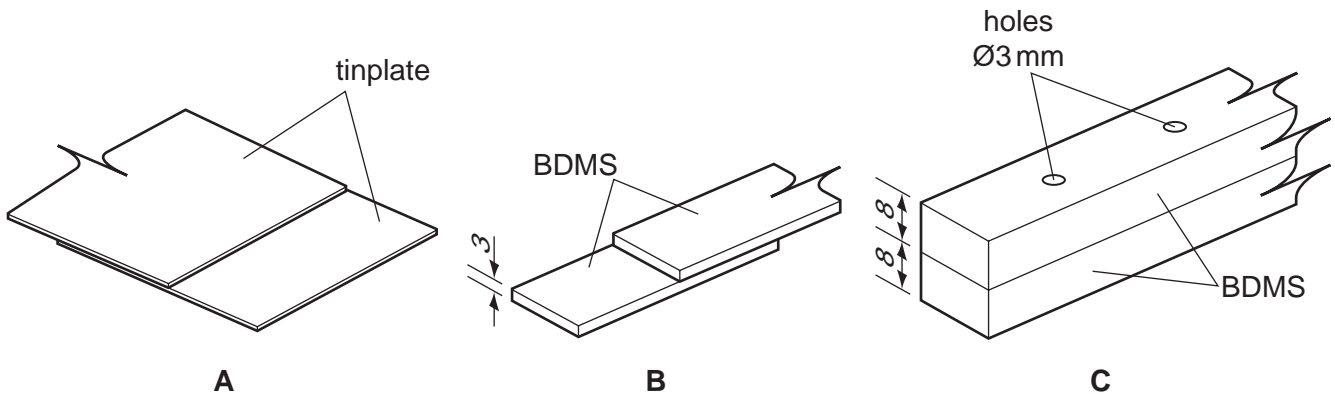

Fig. 1
- 1 Fig. 1 shows three pairs of metal pieces to be joined together in **three** different ways.